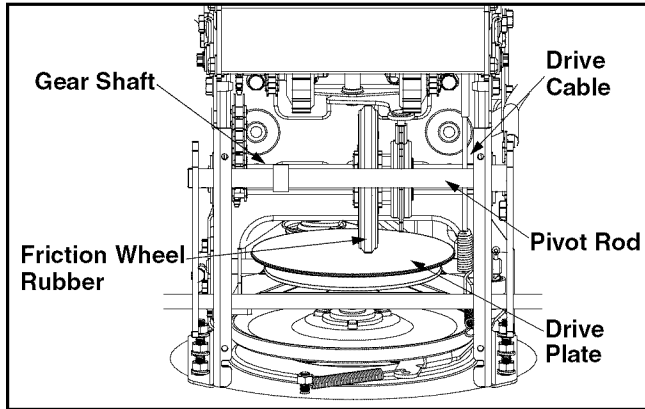

Figure 10
- With the drive control engaged, the friction wheel must contact the drive plate. See Figure 10.
Lubricate the gear shaft with 6-n-1 grease at least once a season or after every 25 hours of operation (available at automotive stores, or order part number 737-0170). Refer to Figure 10.
Lubricate at least once a season or after every 25 hours of operation. Remove the rear cover, lubricate any chains, sprockets, gears, bearings, shafts, and shifting mechanism at least once a season. Use engine oil or a spray lubricant. **Avoid getting oil on the friction wheel rubber and aluminum drive plate.** Refer to Figure 10.